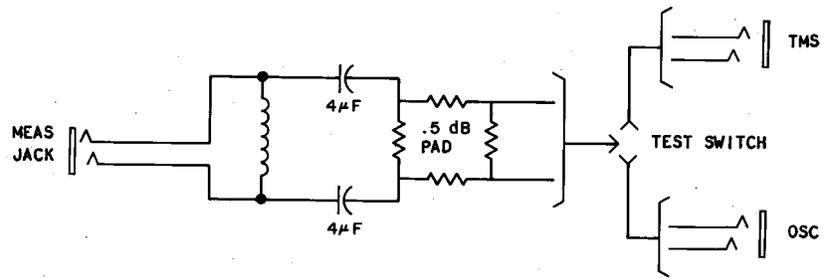

FIG. 1A 2AB SET USED FOR DC ISOLATION
3.04 Fig. 1 shows two common methods used to provide dc isolation when required. The J94002AB (2AB) auxiliary transmission test set (Fig. 1A) should be used where it is available. To use the 2AB set for this purpose, prepare it as follows: